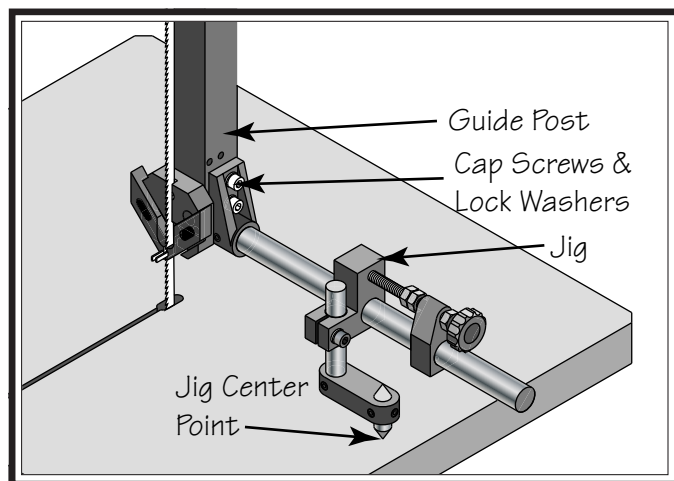

Figure 36. Circle cutting jig installed (some components removed for clarity).
2. Use the included M8-1.25 x 25 cap screws and lock washers to mount the circle cutting jig to the guide post, as shown in **Figure 36**.